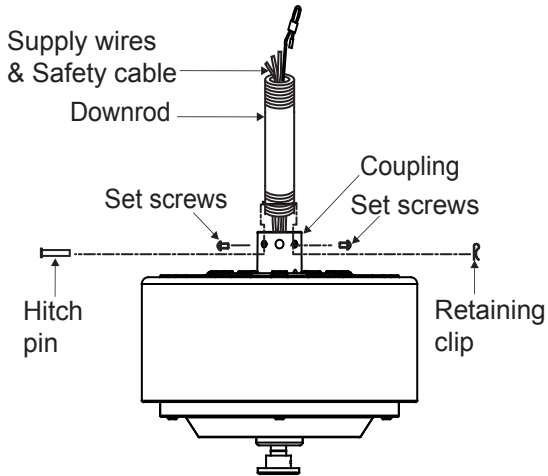

Fig. 9
**Step 7.** Loosen the two setscrews and remove the hitch pin and retaining clip from the coupling on top of the motor assembly. (Fig. 9)
**Step 8.** Carefully route the electrical supply wires and safety cable exiting the top of the fan motor assembly through the downrod. Thread the downrod into the coupling until the hitch pin holes are aligned. (Fig. 9)
Next, replace the hitch pin and retaining clip. Tighten both setscrews. (Fig. 9)